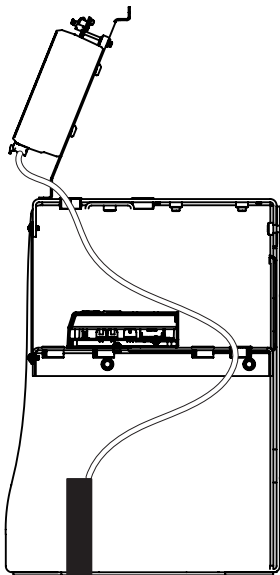

Figure 52. Route Relay Wires
2. Route the relay wires to the SmartCNX Controller (Figure 52).